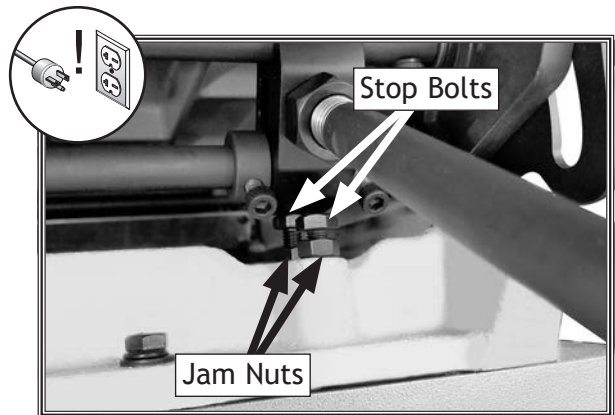

Figure 38. Location of outfeed table stop bolts and jam nuts.
3. Loosen outfeed table lock located at front of machine, and loosen jam nuts and stop bolts located under outfeed table (see **Figure 38**).